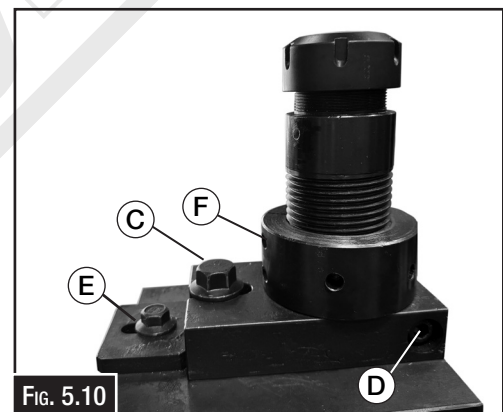

FIG. 5.10
4. Adjust the bottom die height by loosening the lock screw (D in Fig. 5.10) with the “C” spanner move the bottom die up.
5. Adjust the collar (F in Fig. 5.10) to raise or lower die up until the gap between the lower and upper dies is the same size as the material thickness.